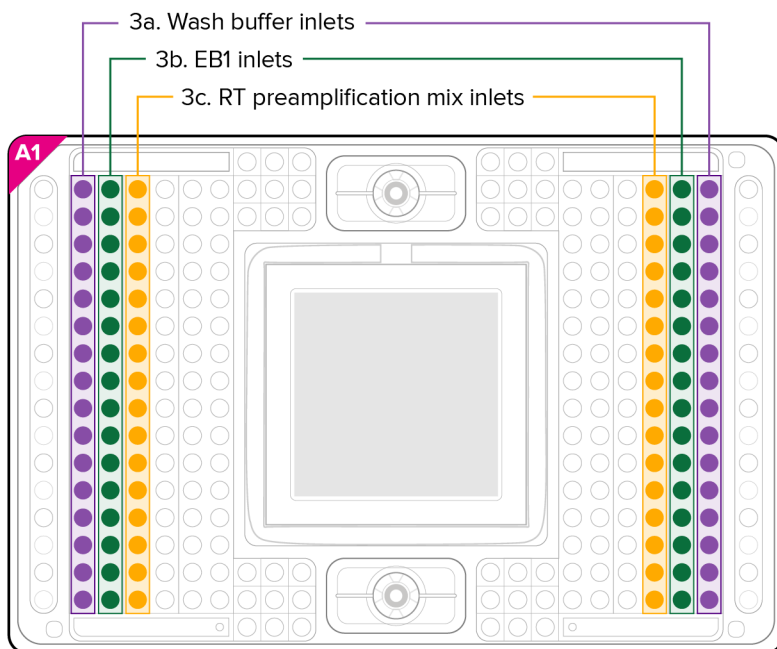

Figure 9. Pipetting buffers and RT preamplification mix for the 96.16 IFC
- 2 Pipet 5  $\mu\text{L}$  of each PCR mix (N1, N2, RP) as shown in Figure 9: N1 and N2 each into 4 inlets on the left side of the IFC and RNase P into 8 inlets on the right side of the IFC.